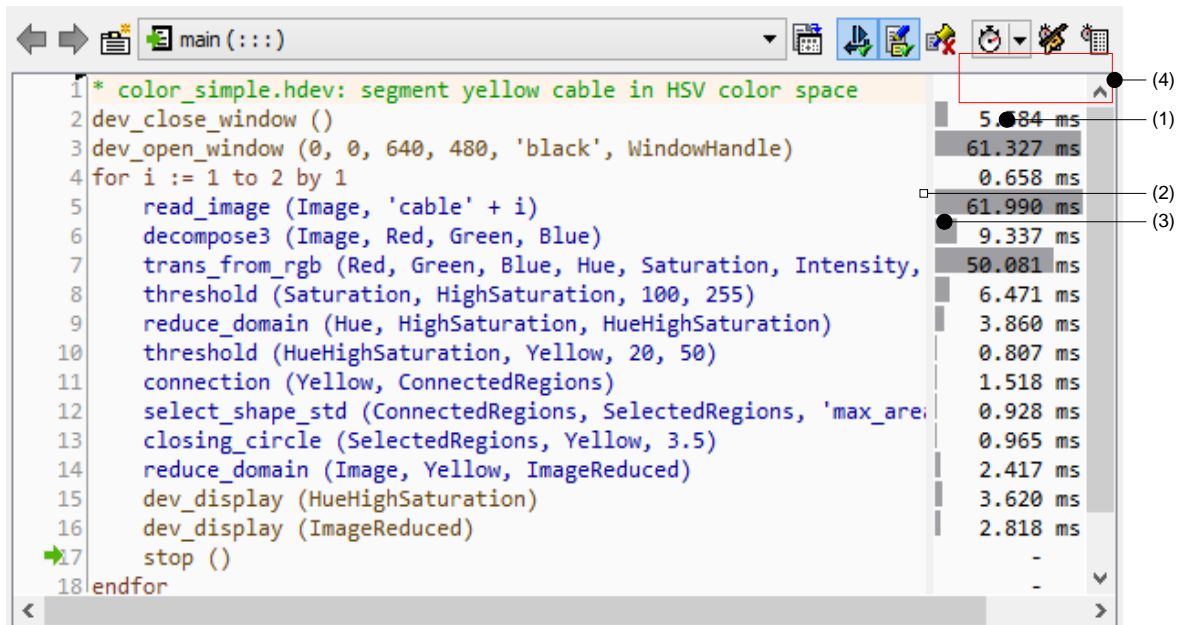

Figure 6.54: Profiling results of the first program execution.
To illustrate the way the profiler works, the HDevelop program `solution_guide/basics/color_simple.hdev` is loaded and executed (see figure 6.54). The profiling data is displayed in a separate column (1) of the program window. The display area can be resized by dragging its left edge (2).